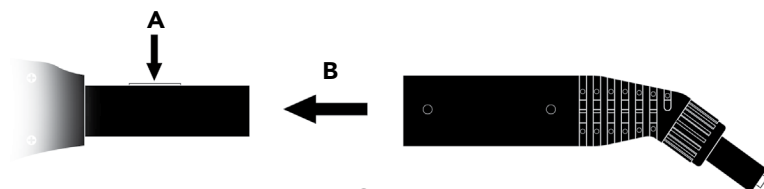

FIGURE 4
2. Press down on gray lock/release button (FIGURE 4-A). While continuing to hold button down, slide accessory onto Main Nozzle (FIGURE 4-B). Push accessory over button, and continue pushing until button snaps through rectangular hole.